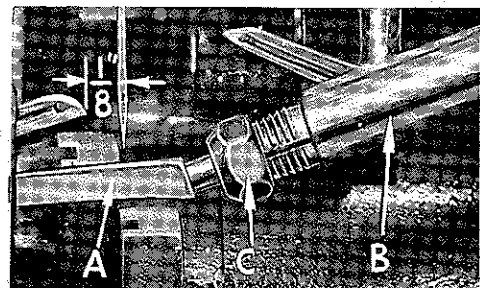

Fig. 6
At this point, insert lower looper (A, Fig. 6) into bar (B). With lower looper at left end of its stroke, set looper point $\frac{1}{8}$ inch from center of needle (Fig. 6), using looper gauge No. 21225- $\frac{1}{8}$. Do not have lower looper deflecting needle. Tighten nut.